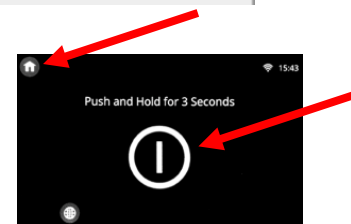

Figure 1
10. Press the **Home** button at the top left of the screen to show the Home Screen (see Figure 1).
27. On the fryer, ensure the controllers are turned OFF (see Figure 1).
34. After it reboots, press the **Home** button at the top left of the screen to show the Home Screen (see Figure 1).